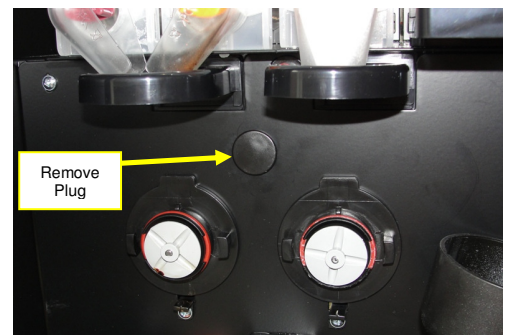

Fig. 2
- 5) Remove hole blanking plug from the panel, as shown in fig. 2